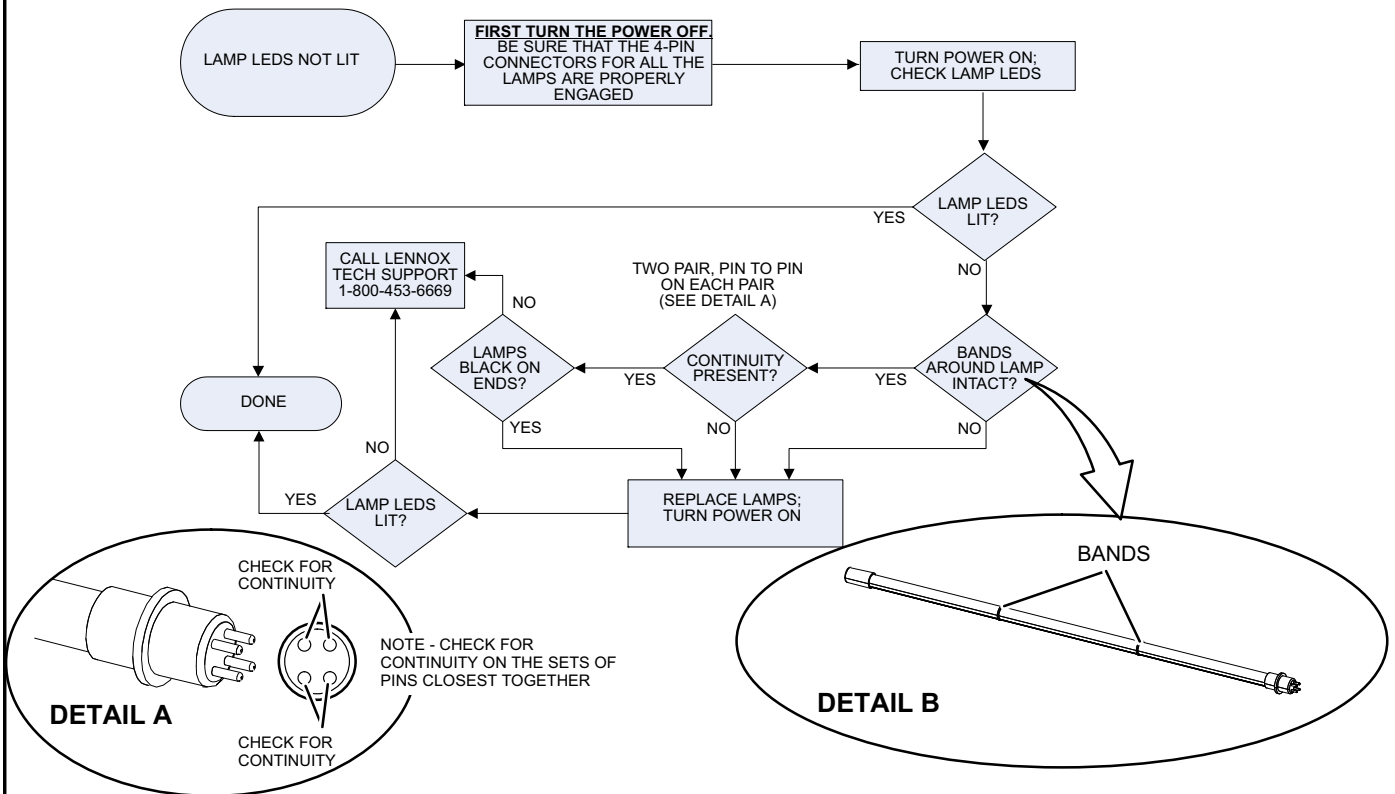

FIGURE 20
- 2- Ohm-check across the lamp pins to check for continuity of lamp filaments (see figure 20).